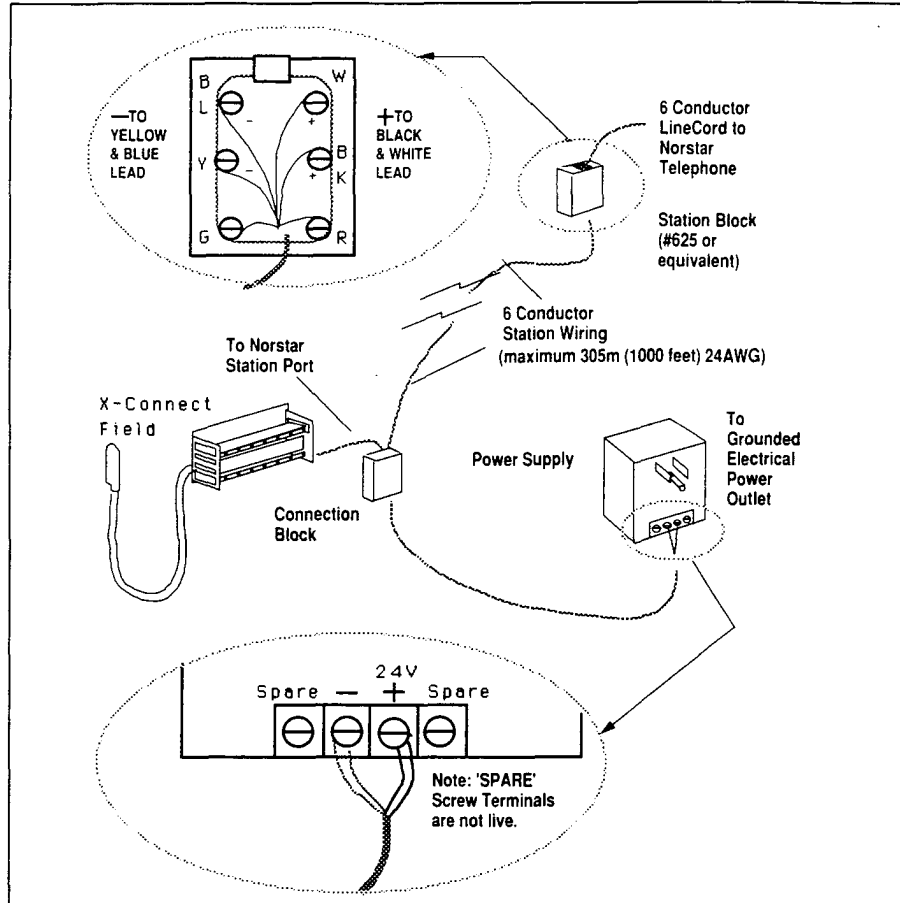

Figure 9.5 - Norstar Station Auxiliary Power Supply Installation for the Central Answering Position Module (CAP)
1. Ensure that each M7324 telephone that you will be adding a CAP Module(s) to has six conductor station wiring between the station block and the common equipment room. (See Figure 9.5.)
2. At the station connection block (#625 type, or equivalent), connect the six wires of the station wiring cable to the six screw terminals as shown in Figure 9.5.